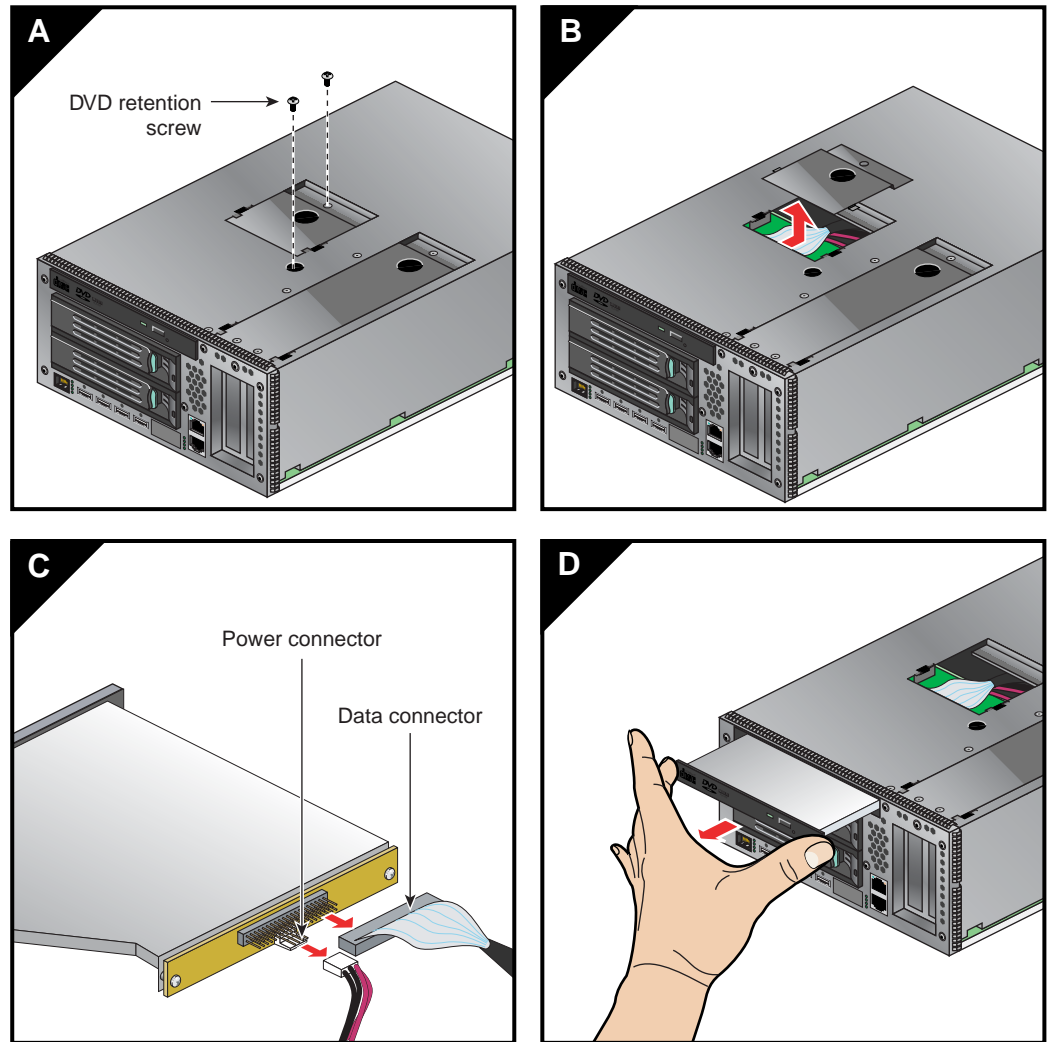

Figure 6-12 DVD Removal from IA Blade
3. After removing the IA blade from the IRU chassis, place it on a stable flat surface with the left side facing upward (see Figure 6-12).
4. Use a Phillips type screwdriver to remove the DVD access panel screw, (see Figure 6-12).